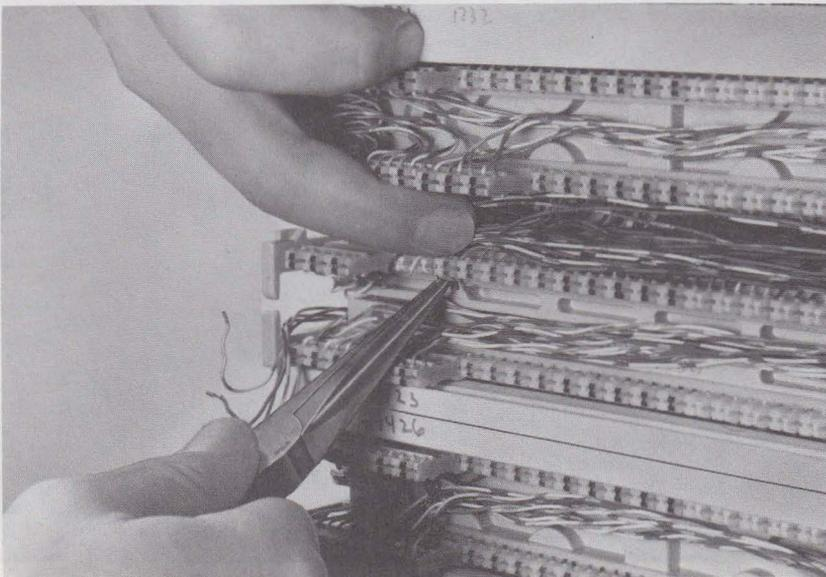

Fig. 24—Reterminating Cross-Connect Wire
3.22 To reterminate a wire which has been removed for rearrangement or testing, cut off the old contact area, pull slack, insert using long-nose pliers (Fig. 24), and terminate as above.
- (1) Using a pair of long-nose pliers as shown in Fig. 24, grip each removed conductor individually and pull to obtain slack; then reposition the conductors in their original position on the index strip (be careful not to split pairs). If enough slack cannot be obtained to reposition the conductor in the index strips,